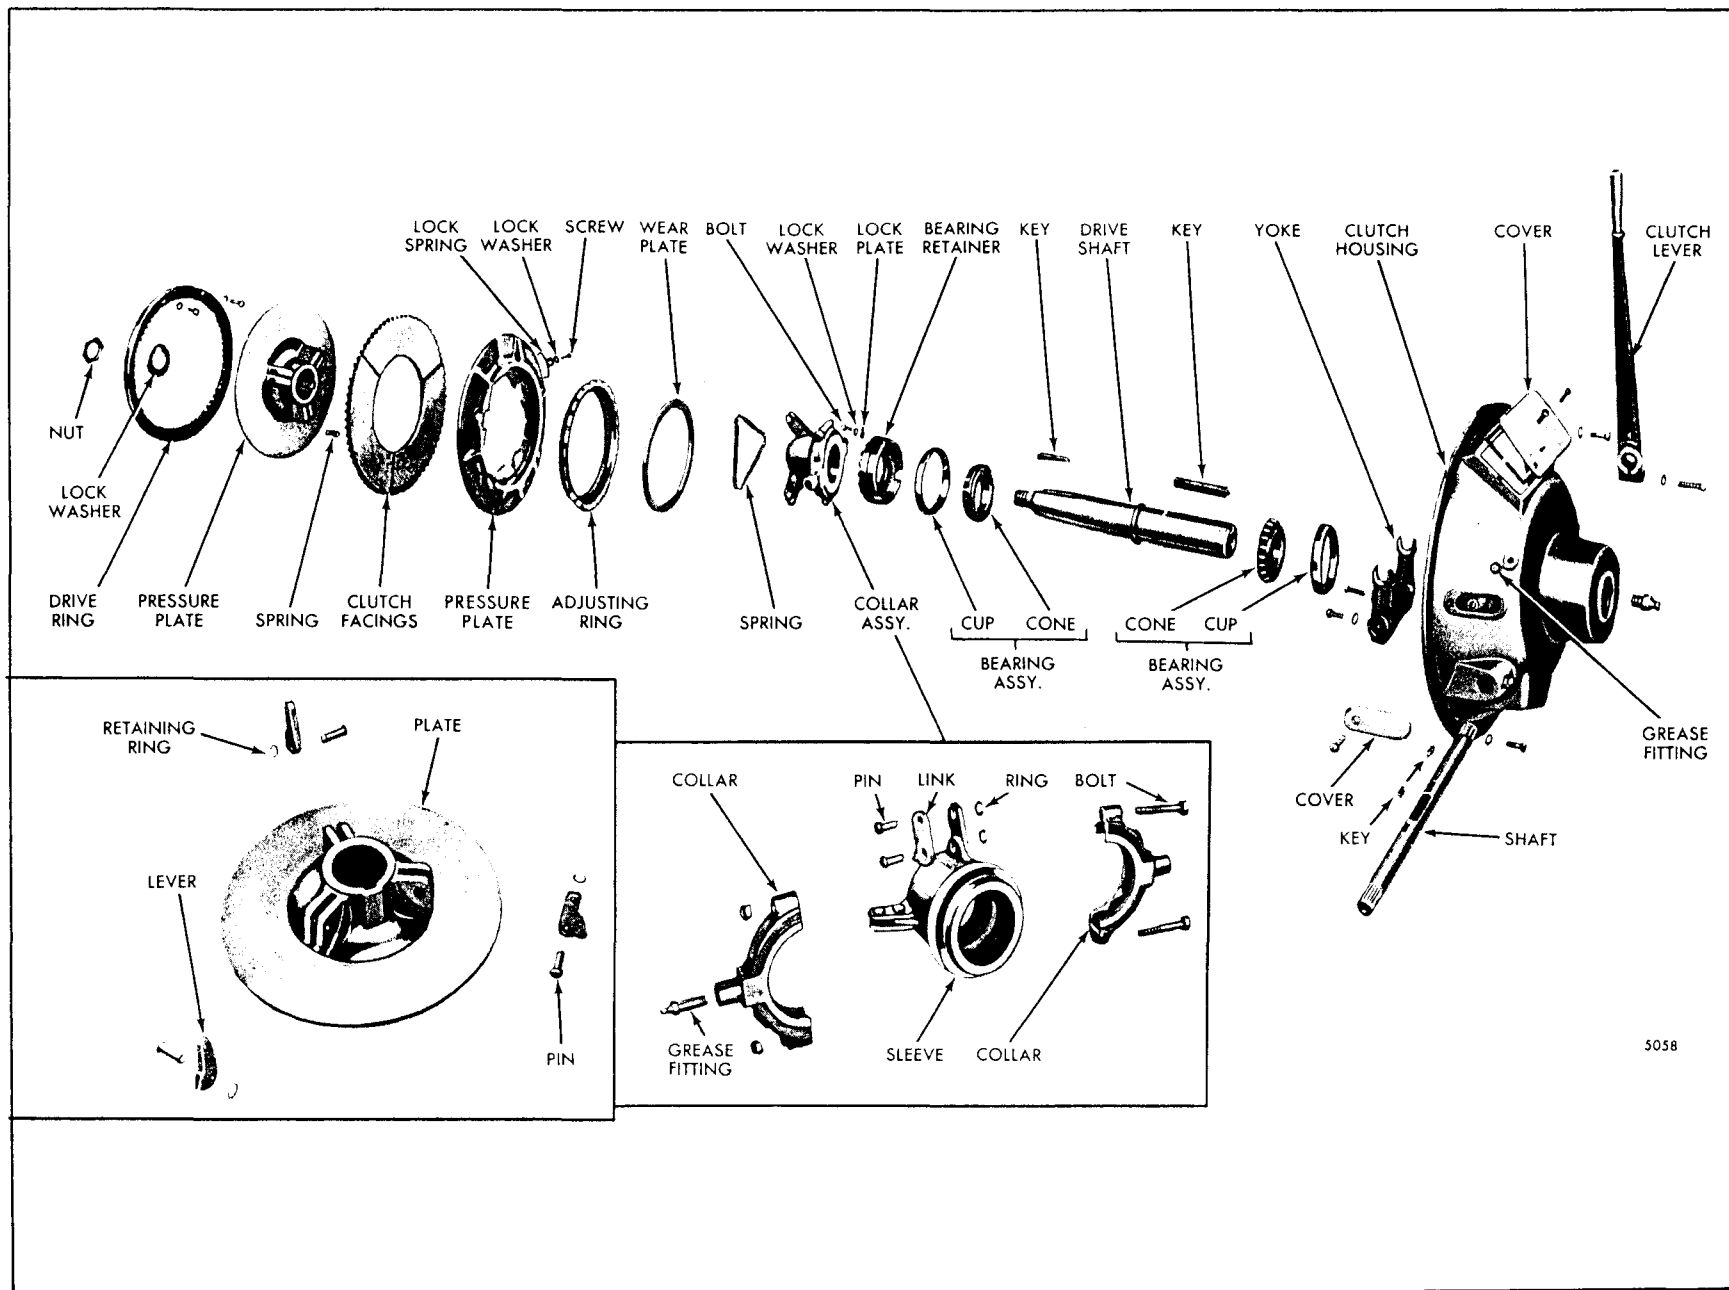

Fig. 12 - Rear Power Take-Off Details and Relative Location of Parts (10 Inch Diameter Clutch Shown)
9. Remove the clutch release lever spring (5) as an assembly from the clutch release sleeve.
10. Matchmark both halves of the release sleeve collar (13) to assure that they will be assembled in the same position.
11. Remove the two nuts from the bolts (12) securing the two halves of the collar (13) together, then remove the collar from the release sleeve (26).
12. Remove the retaining rings from the pins (8) that connect the links (11) to the release sleeve (26). Remove the pins and links from the release sleeve.
13. If necessary, remove the grease fitting (Fig. 12) from the end of the release sleeve collar trunnion (8" and 10" diameter clutches).
12. If removed, install the grease fitting (Fig. 12) in the end of clutch release sleeve collar trunnion (8" and 10" diameter clutches).
13. Place the clutch release lever spring (5) over the end of the clutch release sleeve and against the clutch release sleeve collar.
If the roller bearing cones (Fig. 12) were removed from the clutch drive shaft (16), install them as follows: